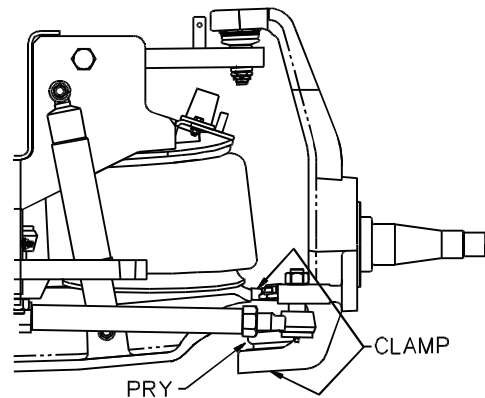

Figure 5 - Ball Joint Pry Bar Locations
3. Using a C-clamp, squeeze the knuckle and the lower control arm together to seat the ball joint. (See Figure 5) Do not apply excessive clamp load.